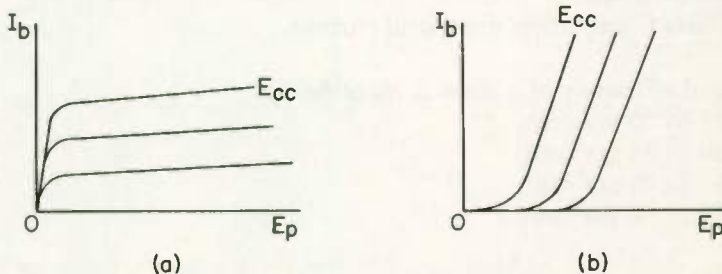

Fig. 45
- (1) class of operation desired.
- (2) whether series or shunt plate feed is to be used.
- (3) Excitation voltage available.
- (4) Plate supply voltage.
26. In Fig. 45 two sets of plate-voltage plate-current curves are shown.